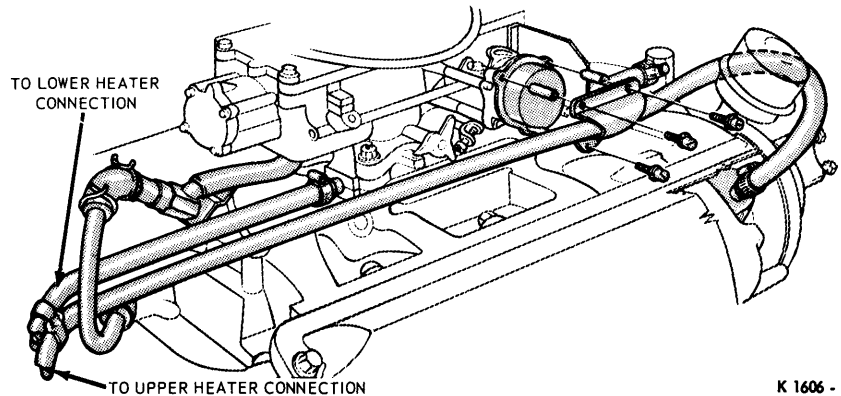

FIG. 6—Heater Hose Connections—Side View
2. Disconnect the hoses from the heater core (Figs. 6 and 7).